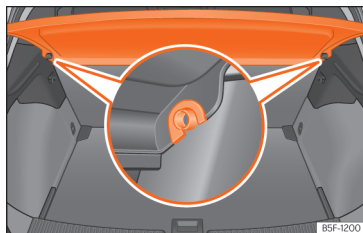

Fig. 175 In the boot: removing and installing the shelf.
- Remove the rear shelf from the side supports >>> **Fig. 175** by pulling it upwards and then take it out.
- Insert the cover horizontally so that the "recess" fits onto the axis of the supports >>> **Fig. 175** and press down until it engages.